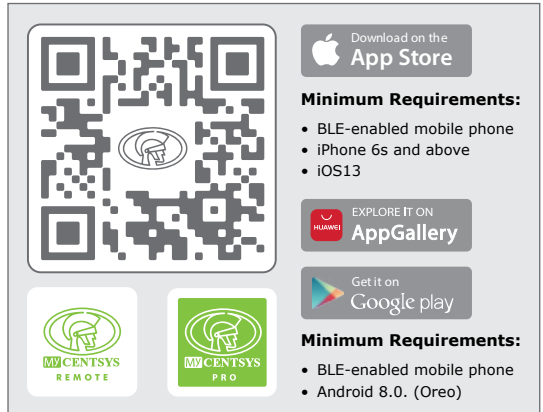

FIGURE 96
1. Scan the QR Code in Figure 96.